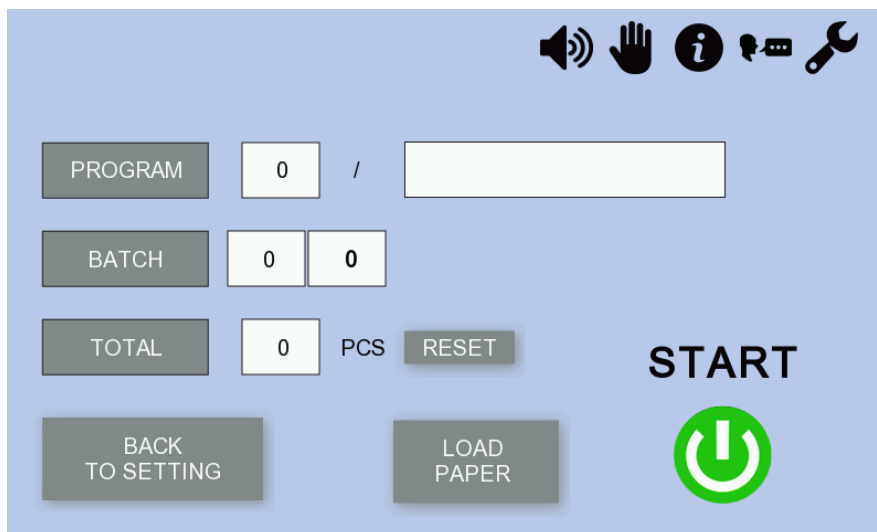

Fig. 25: Working Screen
The feeding head starts feeding sheets of paper into the machine. Do not load another pile of paper onto the feeding table until the machine has processed the last paper, which automatically ends the working cycle and the "WORKING CYCLE" screen is displayed (Fig. 25). The working cycle can be interrupted manually by pressing **STOP** . In case of emergency the machine can be switched off with the big red **STOP** button (2) on the left side of the touch screen.
After processing the job or after interruption of the job by operator "WORKING SCREEN" (Fig. 25) remains on the display. It is also possible to enter "WORKING SCREEN" anytime directly from the "SETTING" screen. This screen includes the same information as "WORKING CYCLE" plus buttons **LOAD PAPER** and **BACK TO SETTING**. If the processing runs as you wish and you want to continue the job, press **LOAD PAPER** and replenish paper on the front table and press icon **START** . If you need to correct the job, press **BACK TO SETTING**.